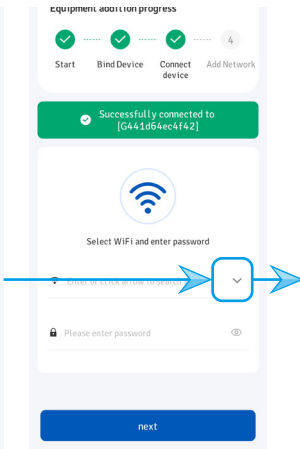

Figure 30
04. Once the device is found, the app will automatically enter the WiFi setup page. You can either enter the WiFi name manually or tap the drop-down arrow on the right side of the input box to select from the available WiFi list, as shown in Figure 30.